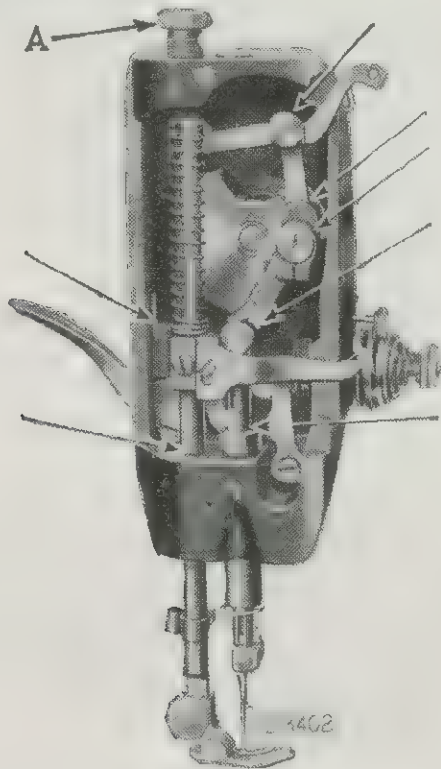

FIG. 24. END VIEW, SHOWING OILING POINTS
For ordinary family sewing it is seldom necessary to change the pressure on the material. If sewing fine silk or flimsy material, lighten the pressure by turning the thumb screw (A, Fig. 24, page 21) on the top of the machine over to the left. To increase the pressure turn this screw over to the right. The pressure should be only heavy enough to prevent the material from rising with the needle and to enable the feed to move the work along evenly; a heavier pressure will make the machine run hard.
near the upper end of the face plate, then raise the plate and slip it off over the head of the screw (A). Put one drop of oil into each of the holes and joints thus uncovered as shown in Fig. 24.